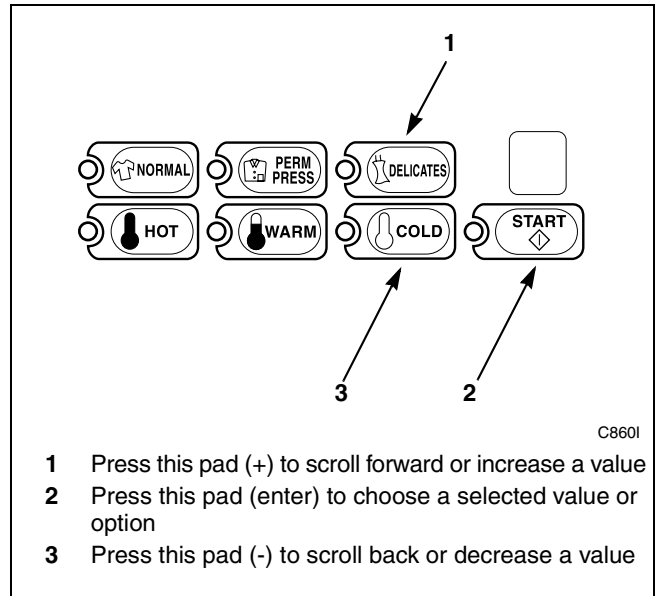

Figure 48
5. Press the DELICATES (+) or the COLD (-) keypad to increase or decrease the start hour to the desired hour. Refer to *Figure 48*.